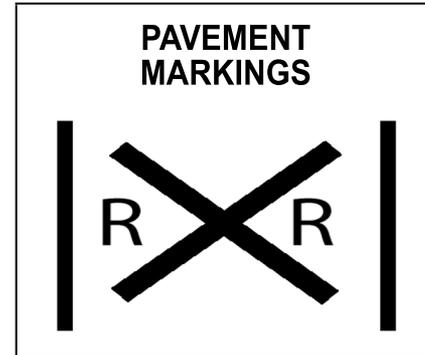

Figure 2.16
**Pavement Markings.** Pavement markings mean the same as advance warning sign. They consist of an "X" with the letters "RR" and a no-passing marking on 2-lane roads. See Figure 2.16.